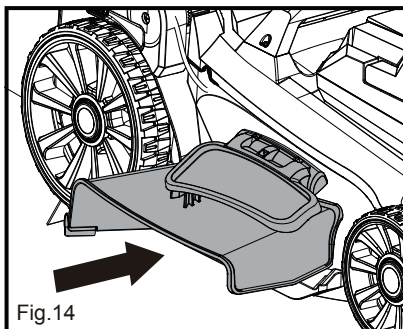

Fig. 14
- Press the locking button to release and remove the mulching plug (Fig. 14).
INSTALLING THE SIDE DISCHARGE CHUTE (See Fig. 14)